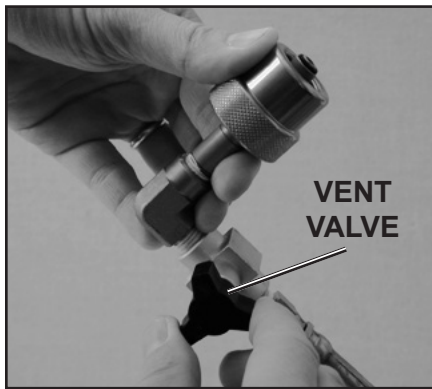

FIGURE 5
6. The straps are equipped with hook-and-loop fasteners to secure the excess strap material. See FIGURE 5.